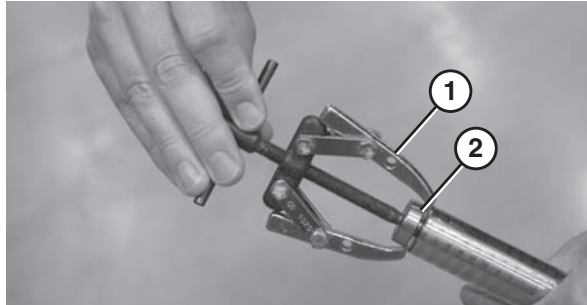

Figure 47
2. Using a bearing removal tool (**Figure 47, item 1**) remove the bearing (**Figure 47, item 2**).